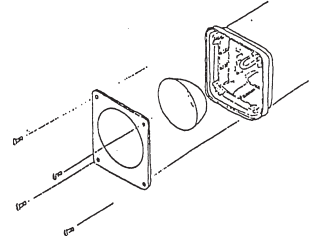

fig. 4.1a
3. Remove protective window by removing the 4 screws (fig. 4.1a).
6. Replace window (fig. 4.1a).